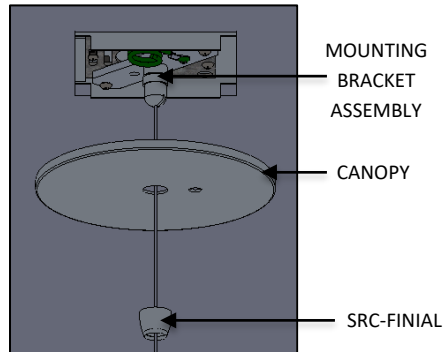

FIG. 29 – CANOPY DISASSEMBLY
7. Once the NOVA BODY is secured to the AIRCRAFT CABLE at the GRIPLOCK Unthread the SRC-FINIAL from the MOUNTING BRACKET ASSEMBLY and lower the CANOPY as shown below in FIG. 29.